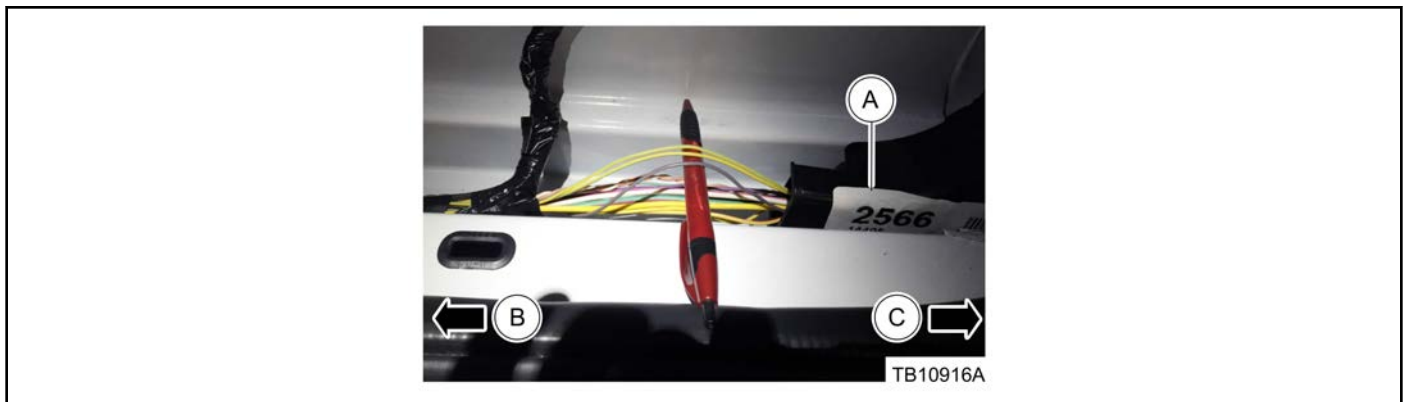

Figure 1 - Article 16-0091
4. Expose the wires and locate the two YE-GN wires. (Figure 1)
- 8. Splice this YE-GN wire routed toward the front of the vehicle into the GY-VT wire in the same harness. (Figure 1)